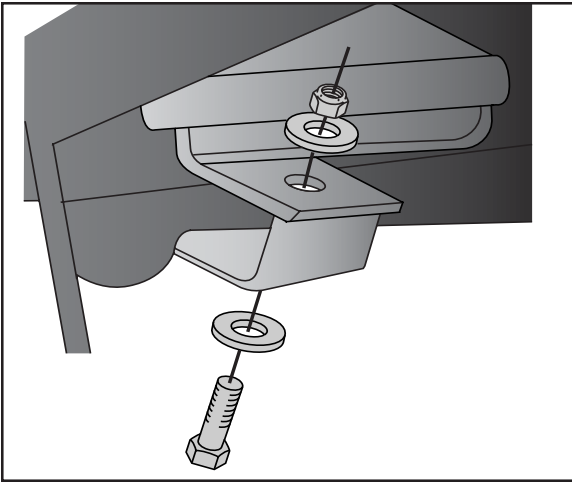

Figure 14
Secure the lower bracket to the jounce bumper strike pad using the retaining bracket (E), 3/8"x2" hex head bolt (J), flat washers (M) and 3/8" lock nut (L) (Fig. 14).